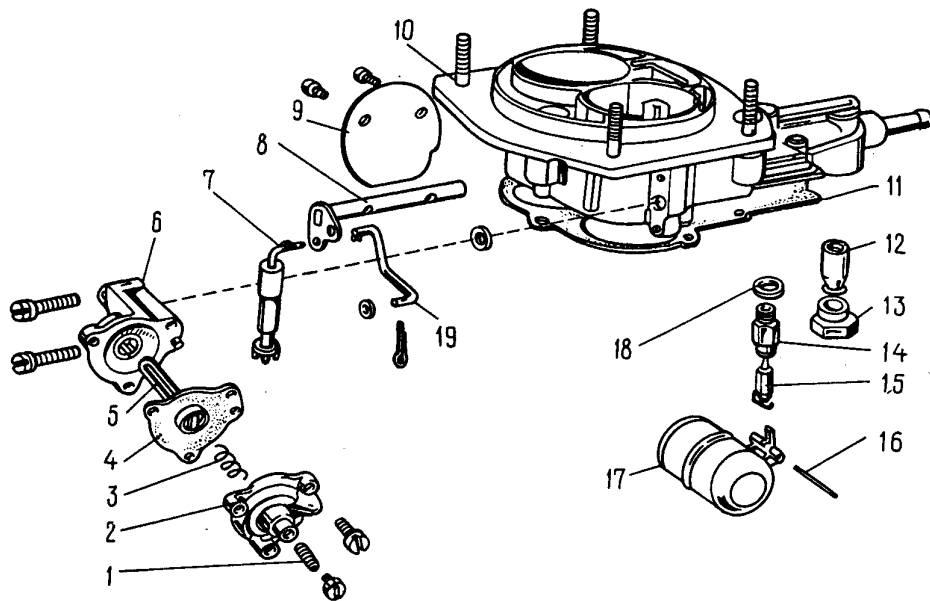

Fig. 2-93. Carburettor Upper Body Parts:
Disassemble the carburettor upper body (Fig. 2-93):
- unbend the tab of lockwasher 2 (Fig. 2-93) and unscrew nut 1 which fastens the levers on the primary throttle valve shaft;